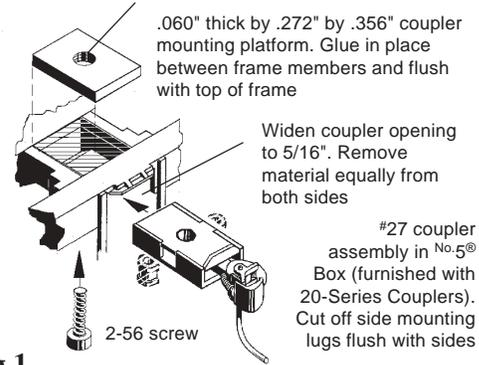

Fig.1
3. Cut a shim to fit between the frame about .272" wide x .356" long and .060" thick. File to fit snugly, flush with the bottom of the upper lip forming a level platform. Cement in place with a solvent cement. See Fig.1.